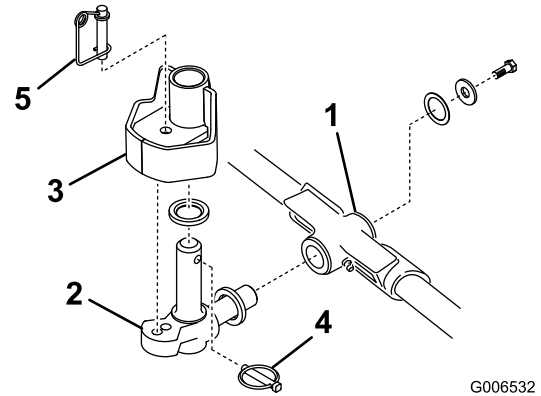

Figure 13
1. Insert a thrust washer onto horizontal shaft of pivot knuckle as shown in Figure 13.
2. Insert the horizontal shaft of the pivot knuckle into the mounting tube of the carrier frame (Figure 13).
3. Secure pivot knuckle to carrier frame with a thrust washer, flat washer and a flange head capscrew (Figure 13).
4. Insert a thrust washer onto vertical shaft of pivot knuckle (Figure 13).
5. If removed, insert the vertical shaft of the pivot knuckle into lift arm pivot hub (Figure 13). Guide the pivot knuckle in place between the two rubber centering bumpers in the under side of the lift arm steering plate.
6. Insert the lynch pin into the cross hole on the pivot knuckle shaft (Figure 13).
Note: If fixed cutting unit position is required, insert steering locking pin into pivot knuckle mounting hole (Figure 13).
11. Hook spring wire around bottom of steering locking pin (Figure 13).